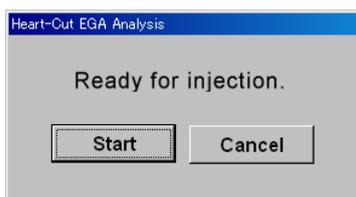

Fig. 4.19 Starting dialog box for Heart-Cut EGA Analysis
- (8) When the GC, furnace, interface, Selective Sampler, and MicroJet Cryo-Trap are ready, the dialog box in Fig. 4.19 will be displayed. Push the Double-Shot sampler down to position the sample cup in the furnace. Click the “Start” button or hit the “ENTER” key on the PC keyboard.